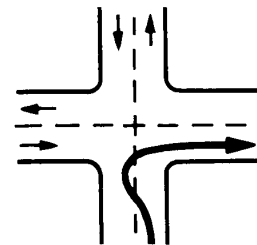

Figure 2-12
- Don't turn wide to the left as you start the turn, as shown in Figure 2-12. A following driver may think you are turning left and try to pass you on the right. You may crash into the other vehicle as you complete your turn.